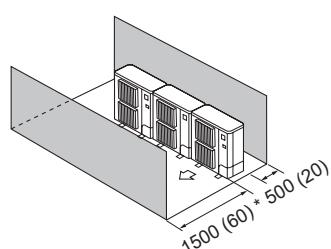

Fig. 2-15
(4) Obstacles at front and rear only (Fig. 2-15)